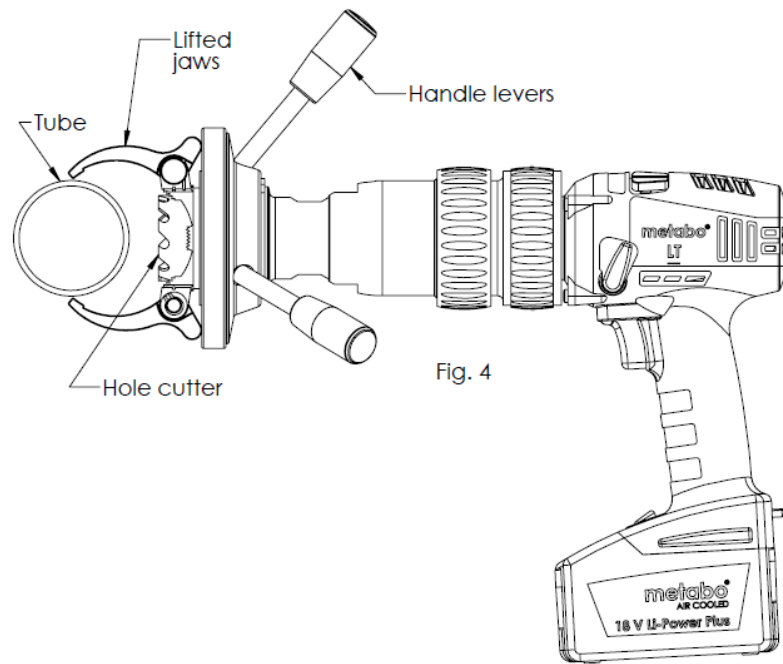

Fig. 4
4. Referring to fig. 4, loosen the jaws by rotating the thrust lock nut anticlockwise. The torsion springs will lift up the jaws thus enable the snap drill to be pulled free.